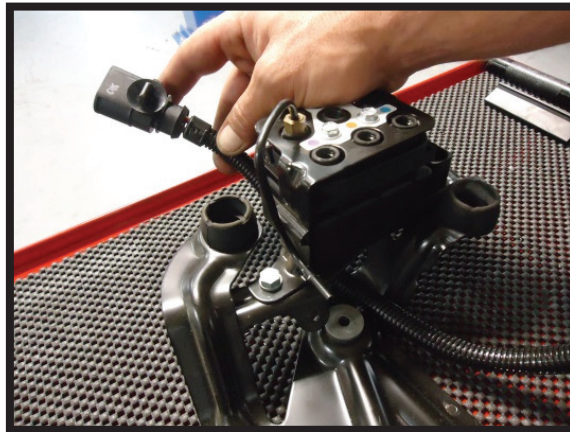

FIGURE 15
1. Route the compressors wiring harness underneath the valve block, and through the mounting bracket as shown. (FIGURE 15)